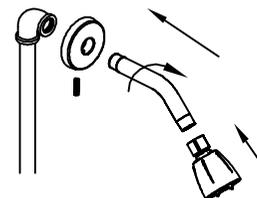

Fig. 5
- 7 Assemble shower arm and flange to upper end of the shower supply outlet with proper fittings. Do not attach showerhead. (see Fig. 5)